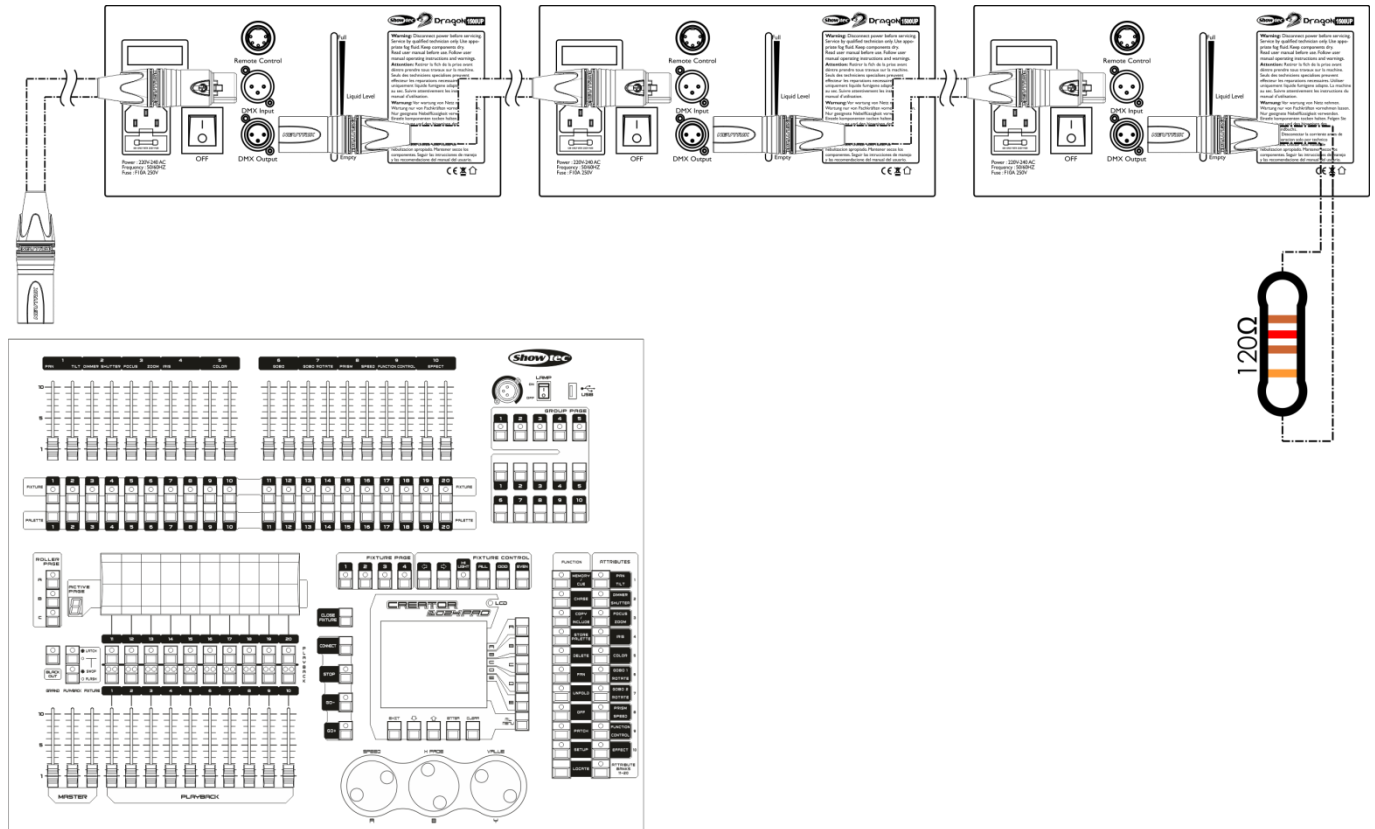

Fig. 04
- 04) Link the units as shown in Fig. 04, Connect a DMX signal cable from the first unit's DMX "out" socket to the second unit's "in" socket. Repeat this process to link the second, third, and fourth units.